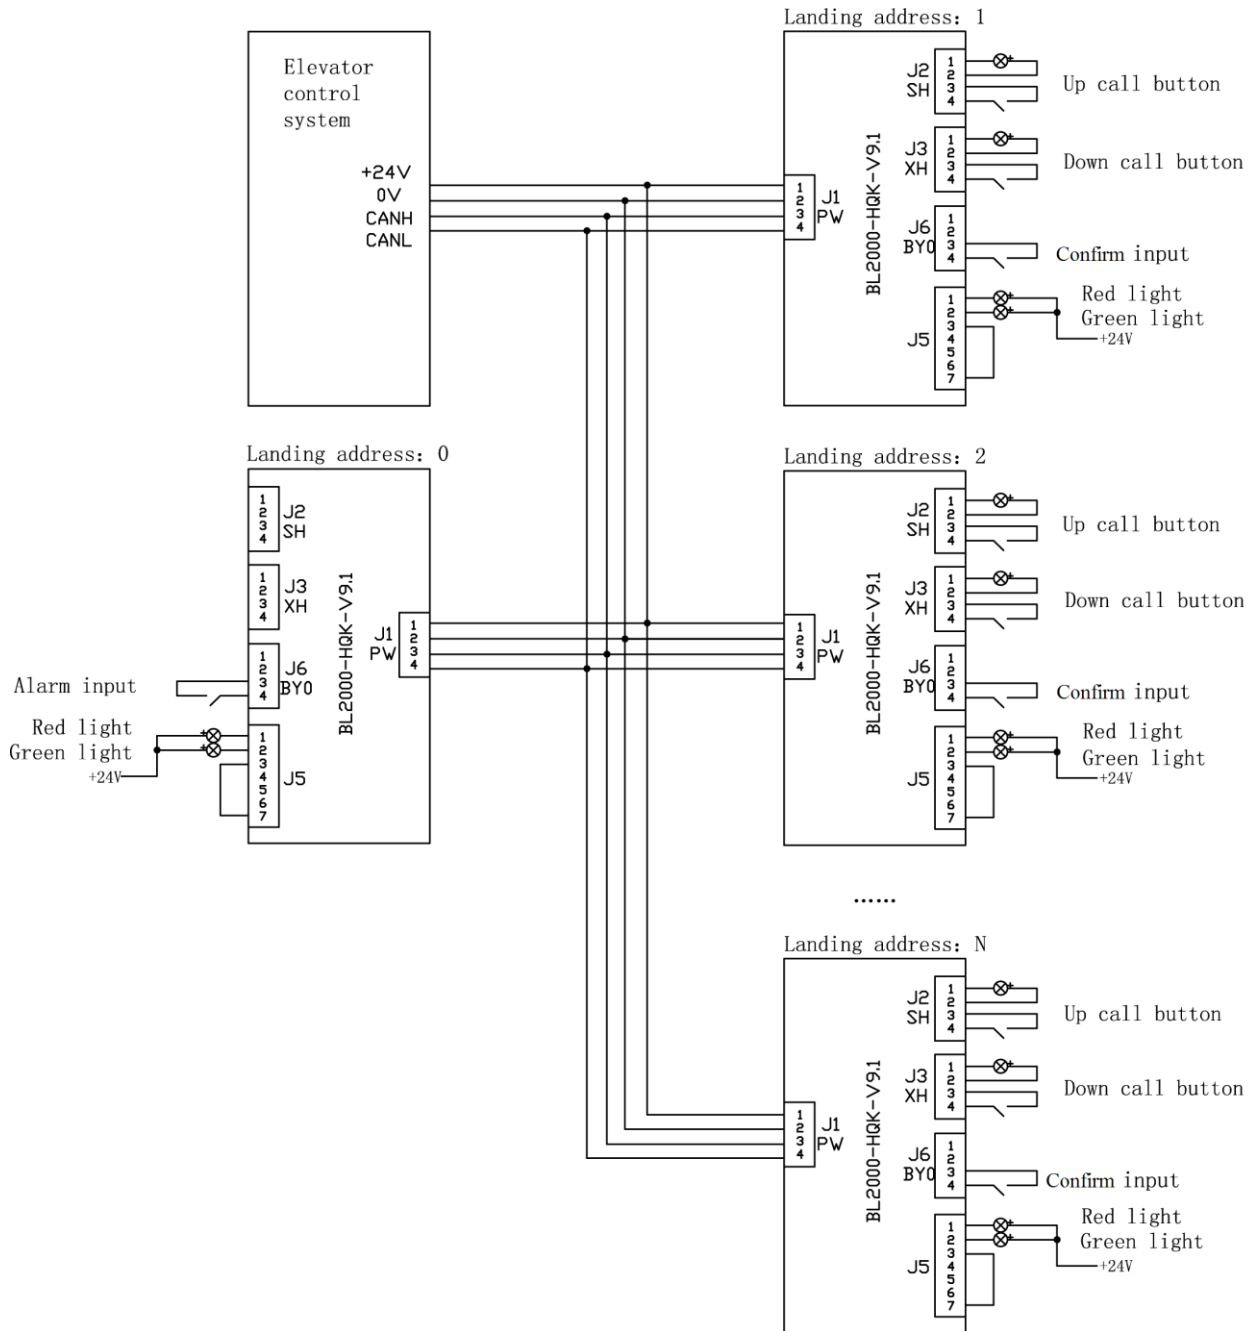

Figure 7.1 Red & Green indicator use independent power supply
**Note 2:** The rated current of 24V output pin (J5-6) on group LOP board is 100mA, so if external device current exceeds this rated current, it will cause group LOP board working improperly. If the current of external device is big, we suggest following Figure 7.1 and use extern power supply.